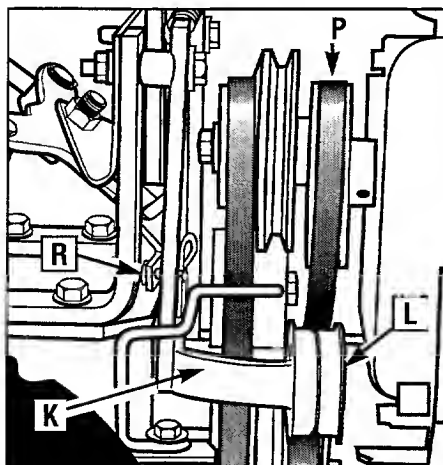
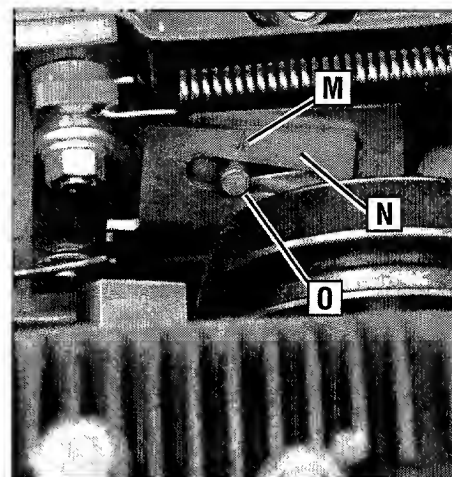

Figure 5-13: Reverse idler arm (K) and reverse pulley (L) shown on Econo-Horse model.
Figure 5-14: While pushing reverse idler arm inward, stand at engine end and check position of guide mark (M) and guide pin (O).
2. Stand at the front of the tiller and use your left hand to push the reverse idler arm (K, Figure 5-13) inward as far as possible (the reverse idler pulley [L] is attached to the reverse idler arm). Hold the idler arm in this position and look at the position of the belt tension guide mark (M, Figure 5-14) that is stamped into the face of the reverse adjustable link (N, Figure 5-14).
- The belt tension is correct if the guide mark (M, Figure 5-14) is anywhere to the left of the guide pin (O), as viewed from the front of the unit (not the operator's position). If the belt tension is correct, reinstall the belt cover and secure it with the two nuts.
3. The reverse idler pulley (L, Figure 5-13) regulates the tension that is applied to the reverse drive belt (P). The following adjustment will allow the reverse idler pulley to apply more tension to a loose belt.
5. Slip the reverse belt (P, Figure 5-13) off the engine driven reverse (upper) pulley.
6. On the **right** side of the unit (as viewed from operator's position) remove the hairpin cotter from the clevis pin (R, Figure 5-13) that connects the reverse idler arm (K) to the reverse adjustable link. Push inward on the reverse idler arm (K) and remove the clevis pin (R).
8. Reinstall the reverse belt (P, Figure 5-13) on the reverse (upper) pulley, making sure the belt is located to the inside of the reverse idler pulley (L, Figure 5-13).